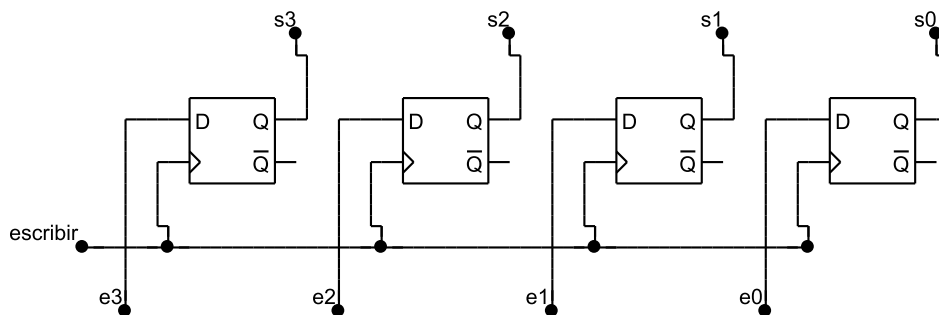

Figure 3.1: Internal scheme of a 4-bit register
- ☐ Develop the circuit of a 4-bit register following the design shown in figure 3.1. Save the project.